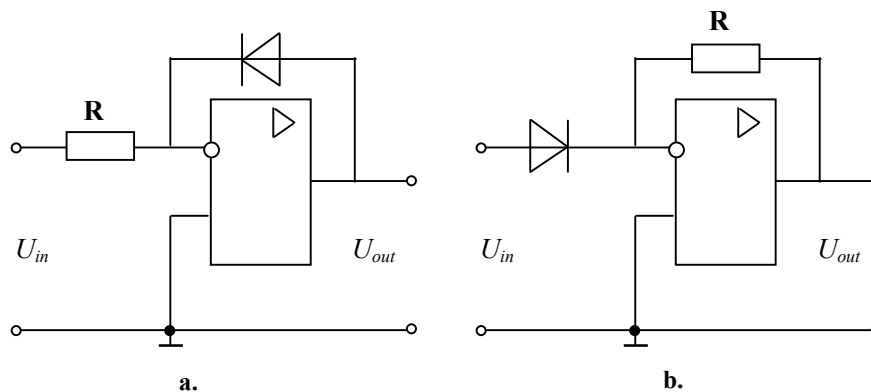

Fig. 2.41
**Logarithmic and exponential amplifiers.** A *logarithmic amplifier* is the inverting amplifier with a feedback diode rather than feedback resistor, as given in Fig. 2.41,a. The nonlinear diode characteristic gives
where  $U_0$  is near 0,06 V and  $I_0$  around  $10^{-10}$  A. Once the diode and the resistor positions replace one other, a *exponential amplifier* appears (Fig. 2.41,b) with the following parameters: